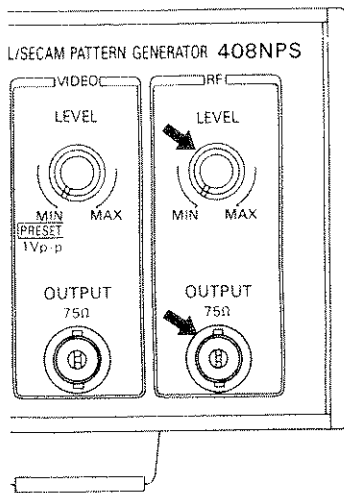

Figure 4.22
4.7.1 Output Connector (See Figure 4.22)